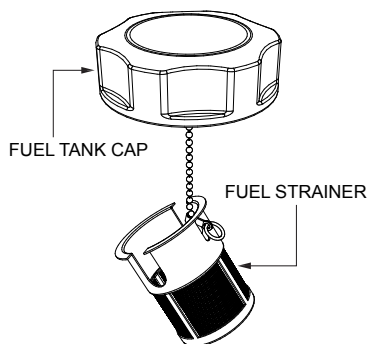

Figure 24. Fuel Strainer
3. Next, remove, inspect and clean the fuel strainer (Figure 24) with solvent.